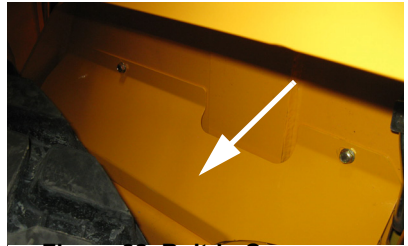

Figure 38 Bolt-in Cover over chaincase fill spot
2. At the front of each chaincase and on top of the chaincase there is a fill location underneath a bolt-in cover. Unbolt the cover to access the fill spot (Figure 38).